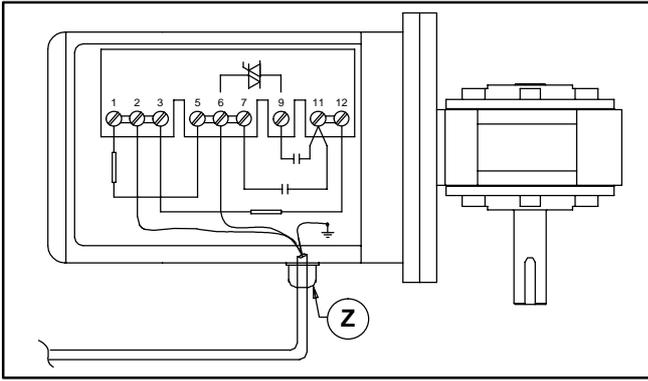

Figure 16
- b. Record wire colors on terminals 2, 6 and ground (\perp) (Figure 16). Loosen terminals 2, 6 and ground and remove wires.
- c. Loosen cord grip (Z of Figure 16) and remove cord.